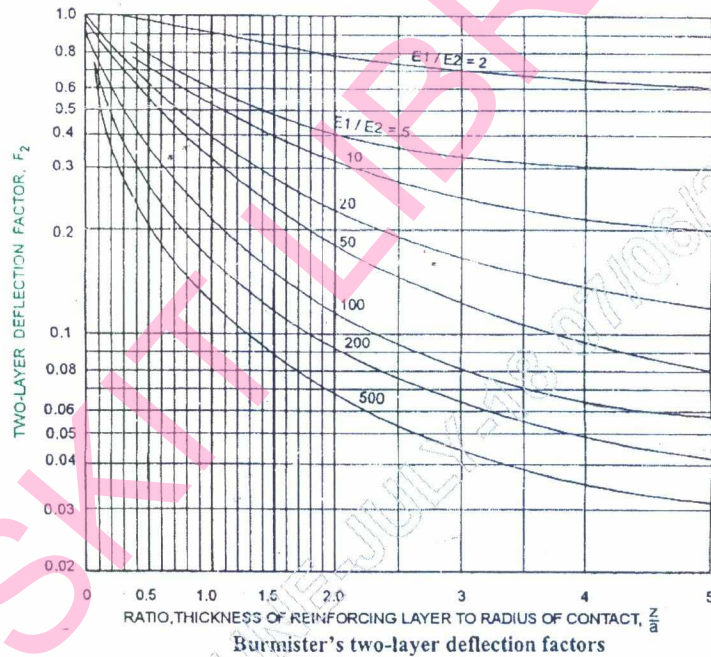

Fig. Q2 (c)
- c. The plate bearing tests were conducted with 30 cm plate diameter on soil subgrade and over 45 cm base course. The pressure yielded at 0.5 cm deflection are 1.25 kg/cm² and 8 kg/cm² respectively. Design the pavement section for 5100 kg wheel load with tyre pressure of 7 kg/cm² for an allowable deflection of 0.5 cm using Burmister's approach. (Refer chart given for Burmister's two layer deflection factors in Fig. Q2 (c)) (08 Marks)